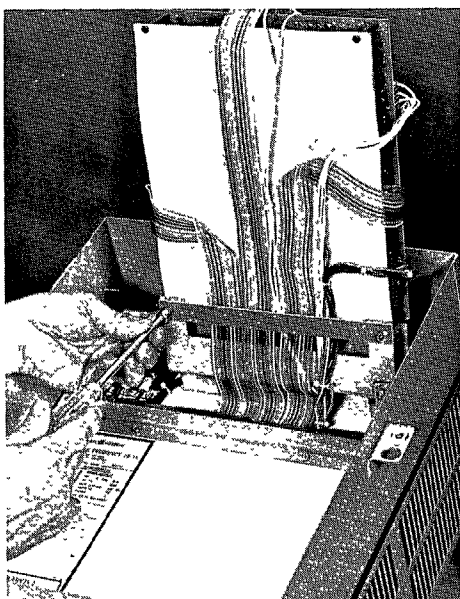

FIGURE 25
7. Loosen the left and right nuts on the slotted plastic wire support. Lift off the wire support. (see Fig. 25).
Release the cable harness 1CN from the plastic wire clamp on the back of the Inverter Control card (see Fig. 25)
- (c) Carefully remove the plastic sheet on the back of the Inverter Control Card. (see Fig. 25)